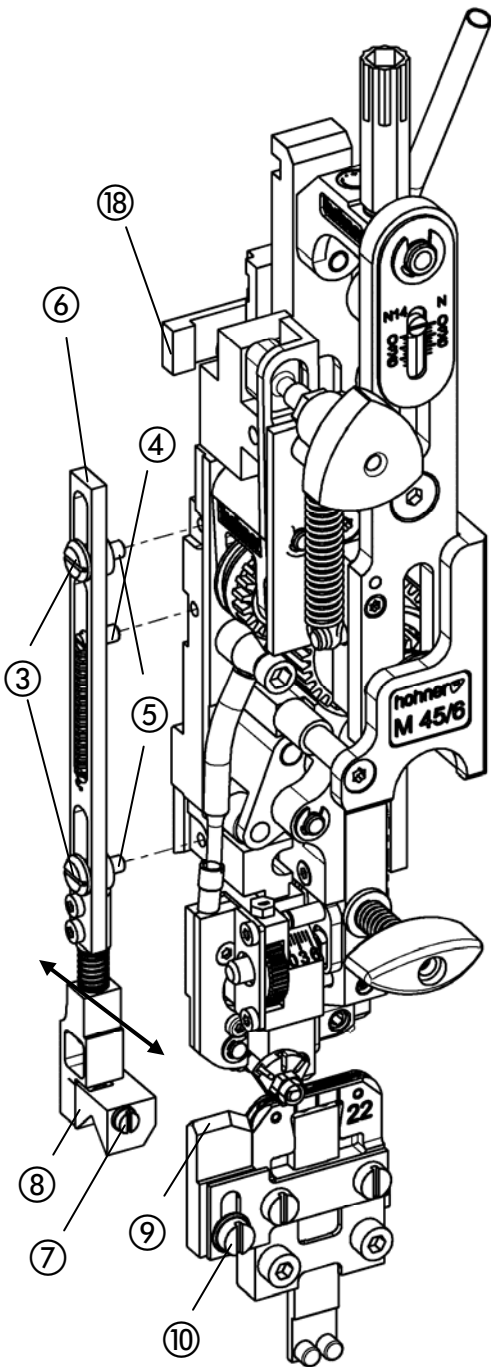

Fig. 16
- Move the centering prism ⑮ backward or forward until it is precisely aligned with the prism of the slider ⑯.
- Adjust the height of the prism ⑯ (approx. 0.5 mm above the clincher box) by moving it in the slot and tighten the fastening screw ⑰.
- Fig. 16 -
- In order to mount the holding down device, screw the spring bolt ④ into the borehole on the stitching head.
- Insert extension spring into spring bolt ④ and lifting rod ⑥.
- Fix holding down device by screwing fastening screw ③ to lifting rod ⑥ and flange bushings ⑤ on the stitching head.
- Installing the carrier ⑱ in the main slide bar - see SPARE PARTS LIST page E27.